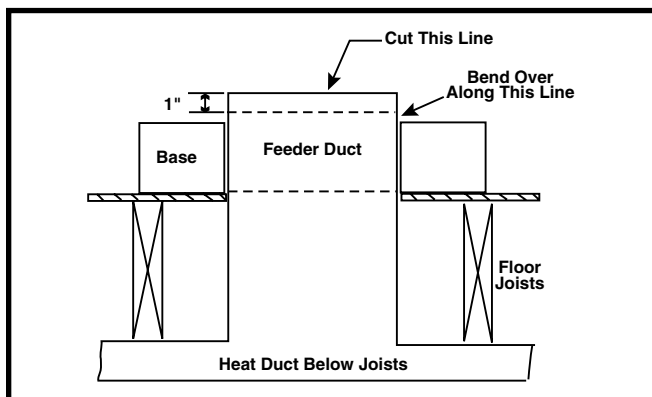

Figure 9. Feeder Duct Installation
7. Slit the corners of the feeder duct down to the top of the base pan (Figure 9). While the top of the distribution duct is pulled up with one hand, bend down each side of the feeder duct tightly to the base with the other hand. Trim the metal to allow a one inch flange over the top of the base pan and seal that flange with metal tape. **NOTE:** If using a "V" or "U"-box crossover system, use manufacturers instructions for installation details.